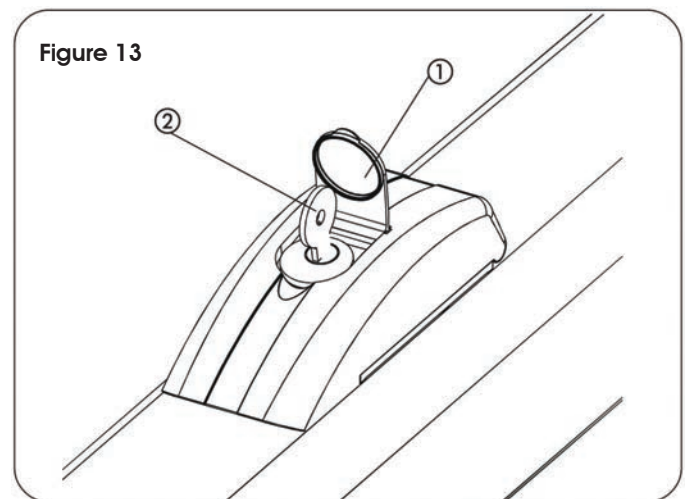
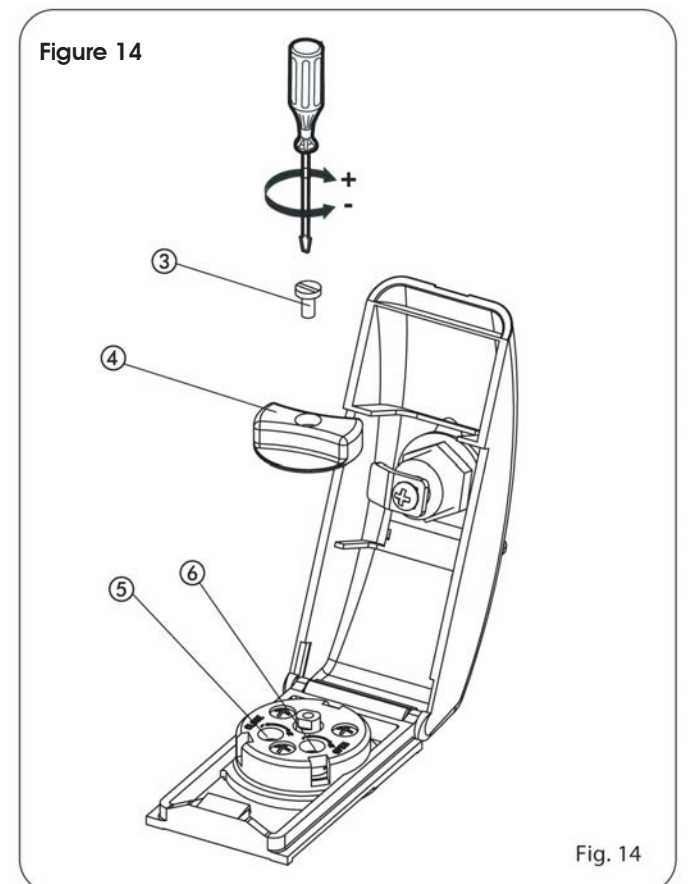

Figure 13
Fig. 14
- Lift the protective cap (Fig. 13, Ref. 1) and insert the supplied key (Fig. 13, Ref. 2).
- Turn the key 90° clockwise to open the cover.
- Lift the cover (Fig. 14).
- Remove the screw (Fig. 14, Ref. 3) which secures the knob and then remove the knob (Fig. 14, Ref. 4).
- Locate the force adjustment screws (By-Pass) on the operator (Fig. 14, Ref. 5 and 6).
- When you have finished making adjustments, re-position the knob (Fig. 14, Ref. 4) and tighten the screw (Fig. 14, Ref. 3).